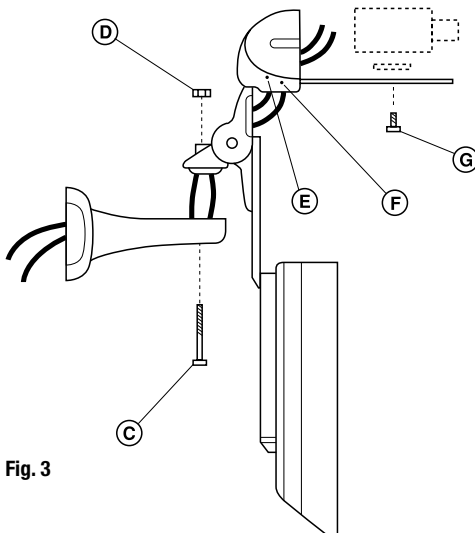

Fig. 3
6. Route the cables inside the joint and assembly it to the bracket with screw (C) and nut (D) (Fig. 3).
8. Route the cables inside the rubber glands (E) and screw the two screws placed in the middle of the two plates (F) (Fig. 3).
10. Fasten the camera (eventually with spacers) to the internal slide with screw (G) and relevant insulating washer (Fig. 3).